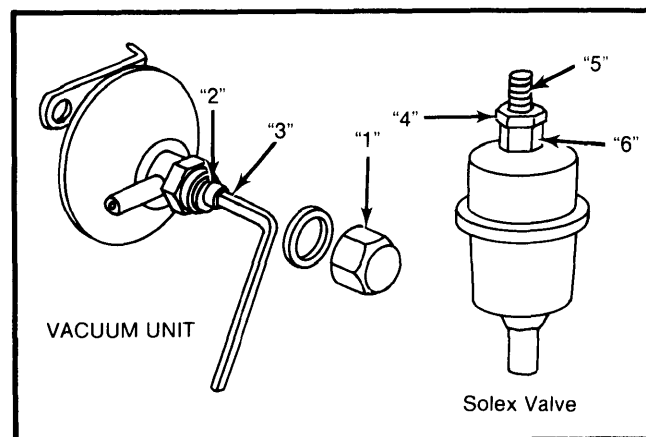

Fig. 3 Adjusting Fast Idle at Deceleration Vacuum Unit and Valve
2) If there is no play present, loosen locknut adjust screw. Then loosen domed nut "1" (See Fig. 3), saving gasket.